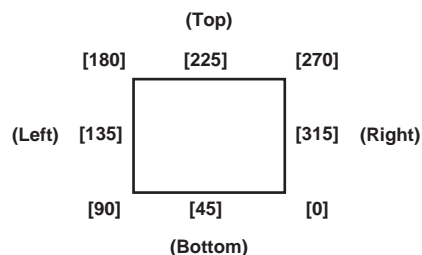

Fig. 2
- 4 Select an item in [Direction] in the [Edge] column. (Fig. 2)